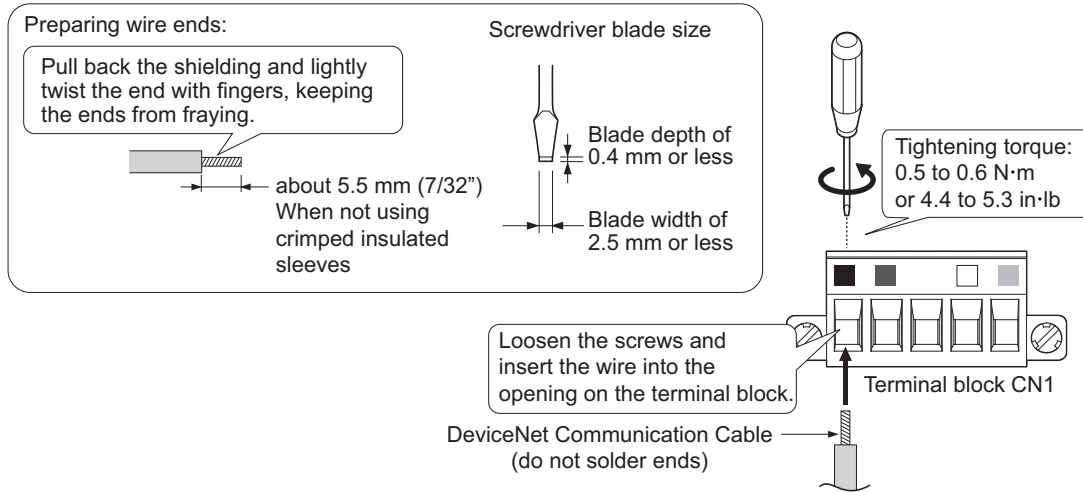

**Figure 24 Prepare Ends of Shielded Cable**
1. Prepare the communication cables as shown in *Figure 24*.